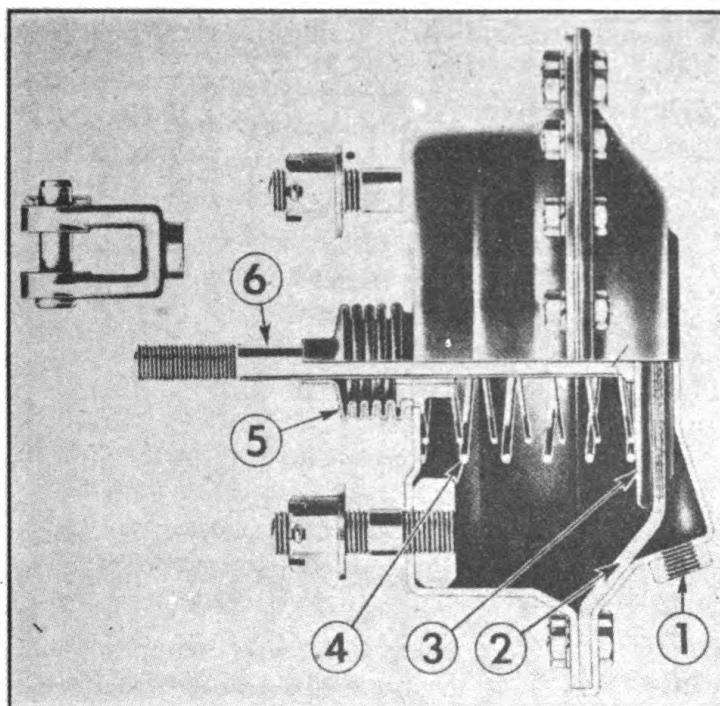

FIGURE 28. BRAKE CHAMBER
**11. BRAKE CHAMBERS** (Figure 28).—*a.* This trailer is equipped with two brake chambers on front axle. They are interchangeable.
*b. Function.*—The function of the brake chamber is to convert the energy of compressed air into the mechanical force necessary to expand the brake shoes against the brake drum and apply the brakes. Air pressure from relay emergency valve enters port (1) behind the flexible diaphragm (2). The force developed moves the flexible diaphragm, moves the push plate (3) and attached push rod (6), so as to rotate the brake cam and apply the brakes.
*c. Adjustment.*—(1) The stroke of the brake chamber push rod is limited, therefore, the brake must be adjusted (see Brake Minor Adjustment) to keep the push rod stroke within the correct limits. The stroke should never be permitted to exceed  $1\frac{3}{4}$ " and when the brakes are adjusted, the stroke should be as short as possible without the brakes dragging. This minimum stroke is usually about  $\frac{3}{4}$ ".